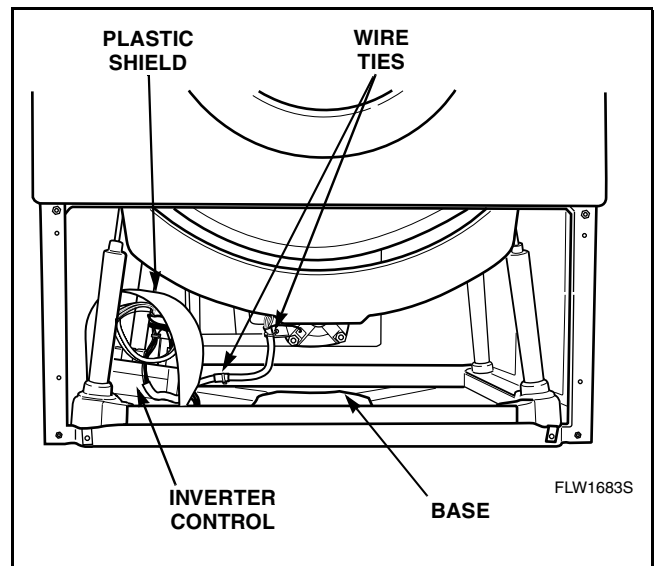

Figure 17
- Remove screws holding inverter control to base of washer. Refer to *Figure 17*.
- Position the new inverter control on base of washer as shown in *Figure 17*. Reinstall screws (removed in Step f) and tighten firmly.
- Secure wires to base and motor using new wire ties. Refer to *Figure 17*.